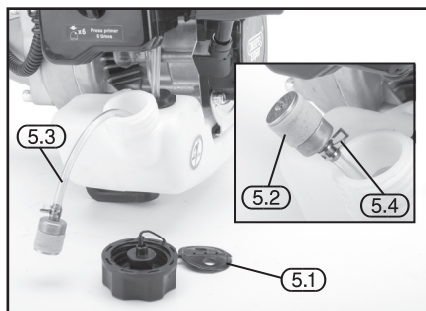

FIG. 39
15.4 REPLACING THE FUEL FILTER - FIG.39